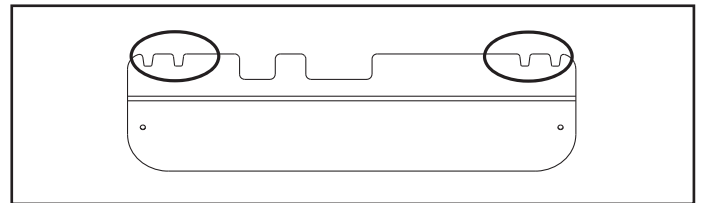

Figure 9
1. Hold the heat shield so that the fold in the metal is facing upwards as shown in figure 9.